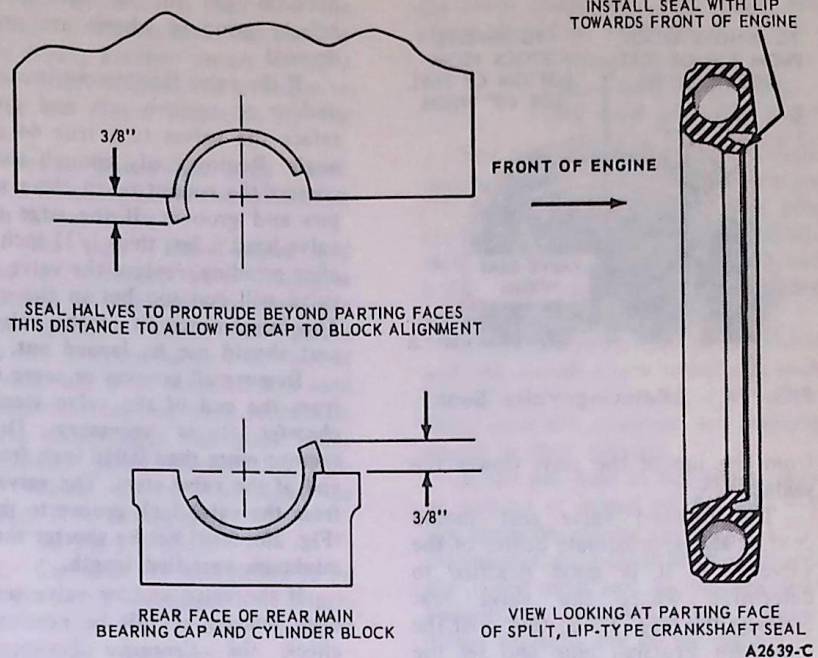

FIG. 22 Installing Crankshaft Rear Oil Seal
3. Carefully install the upper seal (cylinder block) into its groove with undercut side of seal toward the FRONT of the engine (Fig. 22), by rotating it on the seal journal of the crankshaft until approximately 3/8-inch protrudes below the parting surface.
5. Install the lower seal in the rear main bearing cap with undercut side of seal toward the FRONT of the engine (Fig. 22), allow the seal to protrude approximately 3/8-inch above the parting surface to mate with the upper seal when the cap is installed.